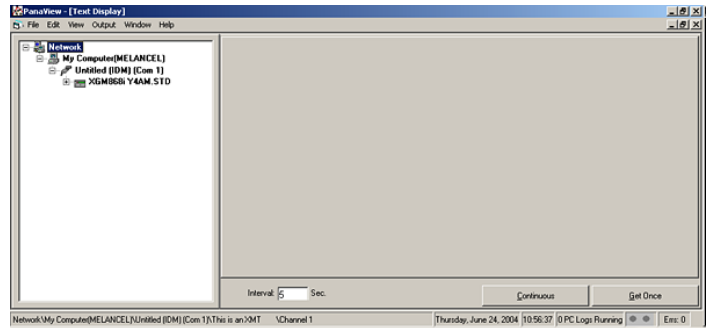

Figure 20: The text display window
2. Using the *Window* menu, as described in the *PanaView* manual, arrange the open windows in the desired format. For this discussion, *Figure 20* shows the *Text Display* window in its maximized (full-screen) size.
5. Before actual data values can be displayed in the text pane, activate one of the following data collection modes (see *Figure 20* above):